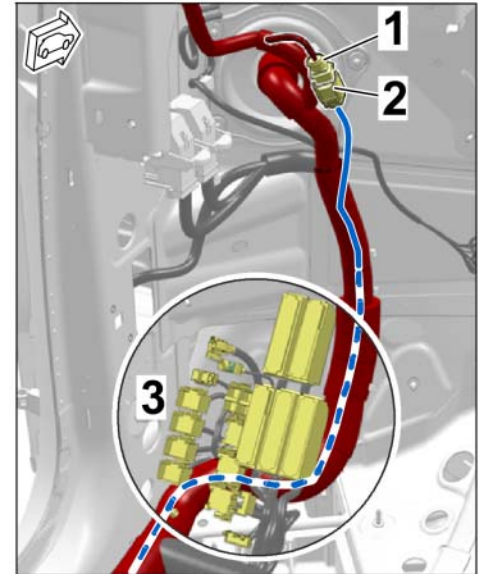

Figure 30
3.2.1 A-pillar area, left (⇒ Figure 30)